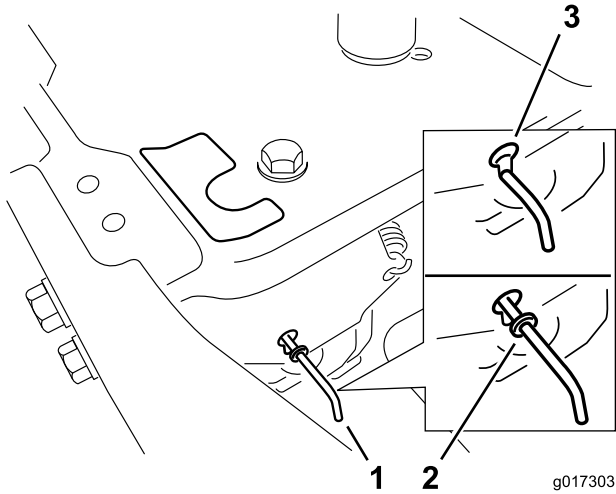

Figure 28
4. Move the bypass levers forward through the key hole and down to lock them in place as shown in Figure 28. Ensure this is done for each lever.
Move the bypass levers rearward through the key hole and down to lock them in place as shown in Figure 28. Ensure this is done for each lever.